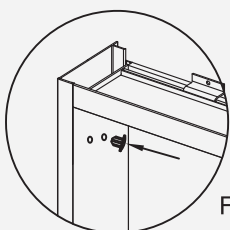
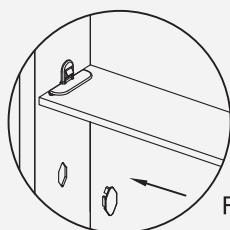

Fig 18
Fig 19
3. Fill the remaining holes with hole plugs ③ (Fig 18). Fill the rest of the shelf clip holes with decorative covers ⑭ (Fig 19).